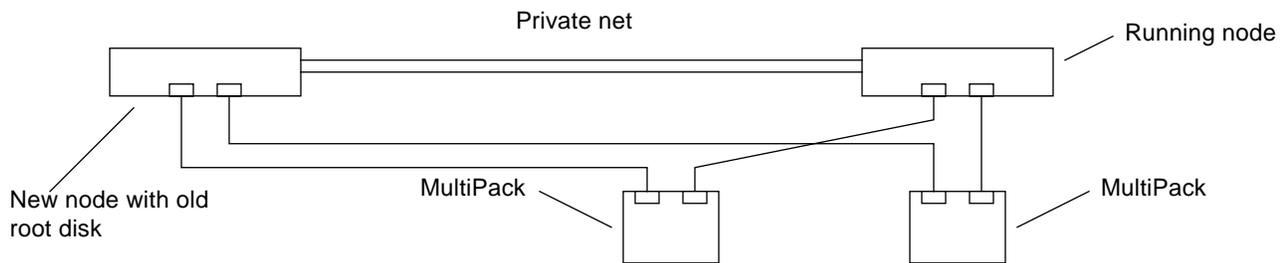

Figure 7-8 New Node in the Cluster
18. Connect the private net cables (Figure 7-8).